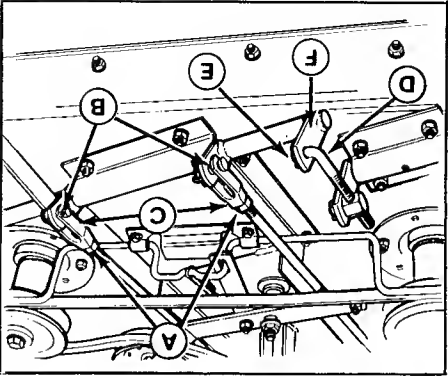

Figure 33. Levelling Mower
5. Remove the cotter pin (E, figure 33) which secures the mower levelling rod (D). Shorten the rod (D) to raise the left side of the mower or lengthen the rod to lower the left side of the mower. Put the levelling rod back in its hole and recheck the measurements. If the mower is level, install the cotter pin (E).